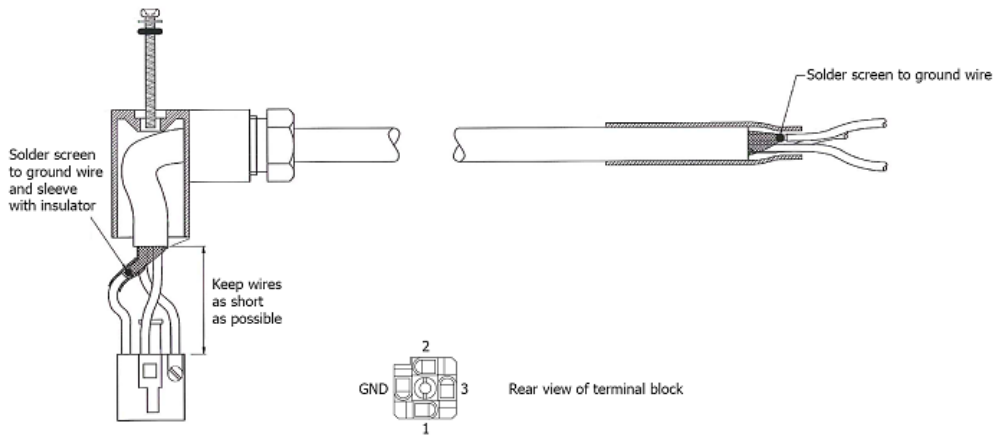

Figure 17 Cable Assembly
4. Cable should be assembled according to Figure 17.